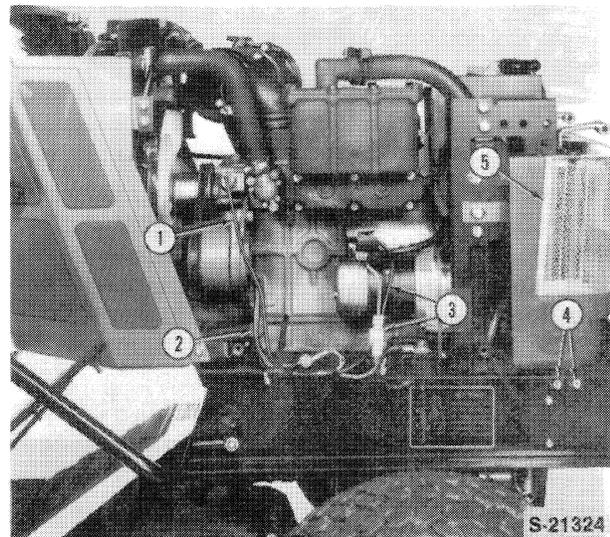

Figure 15
17. Disconnect the coolant temperature sensor wire (1) from the sensor switch, Figure 15.
18. Remove the wires (2) from the alternator assembly, Figure 15.
19. Remove the battery cable and wires (3) from the starter motor, Figure 15.
20. Remove the front grill support bolts (4) (three each side) and remove the grill (5), Figure 15.